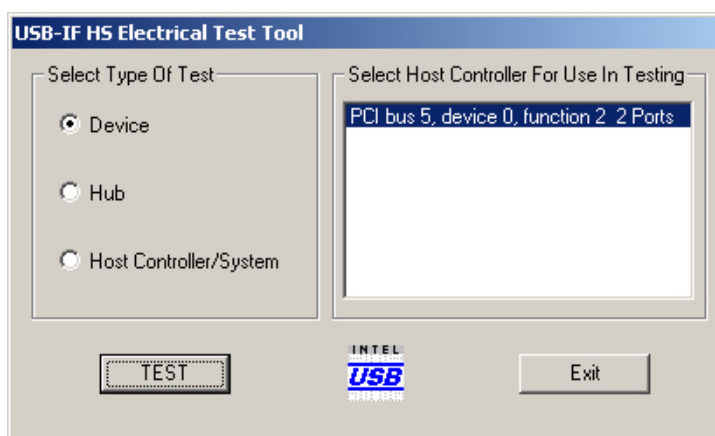

Figure 3. Electrical Test Tool Main Menu
5. Invoke the Hi-speed Electrical Test Tool software on the Hi-speed Electrical Test Bed computer. The main menu appears and shows the USB2.0 host controller. (Figure 3)